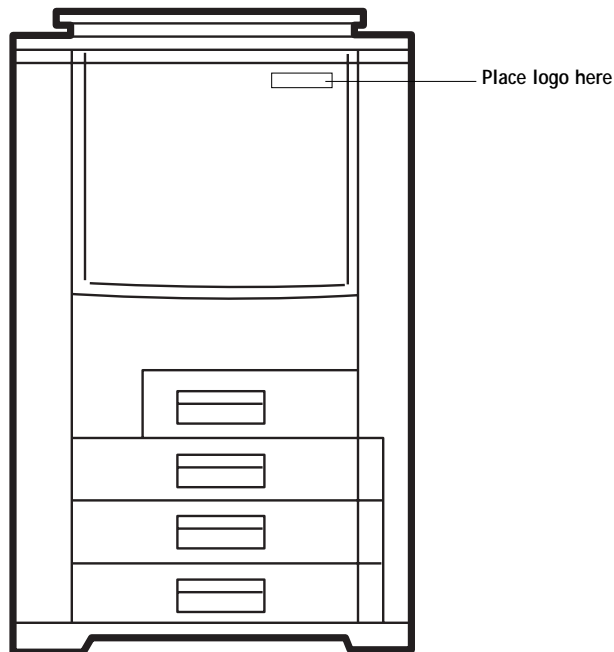

FIGURE 2-6 Installing the logo decal on the copier
This label needs to be placed on the front of the copier (see Figure 2-6 on page 2-6).
5. Peel the adhesive backing off the Fiery driven and Adobe PostScript logo decal and install it on the front of the copier (see Figure 2-6).